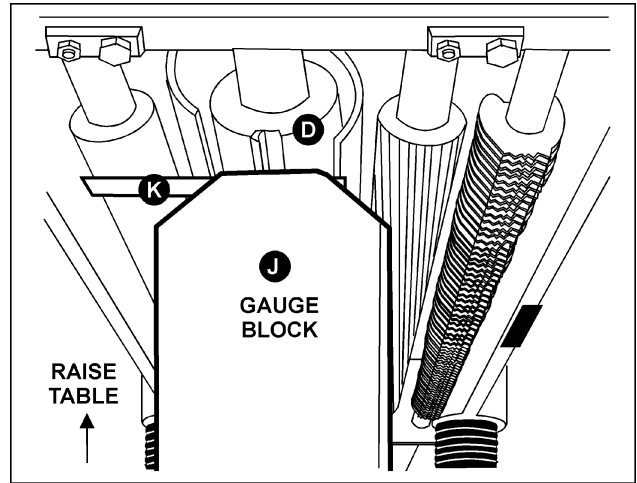

Fig. 25
3. Place the gauge block (J, Fig. 25) on the table directly beneath the cutterhead (D, Fig. 25).
4. Using a 0.02" (0.5mm) feeler gauge (K, Fig. 25) placed on top of the gauge block, raise the work table until the knife just touches the feeler gauge when the knife is at its lowest point. Do not move the work table any further until the outfeed roller is adjusted.